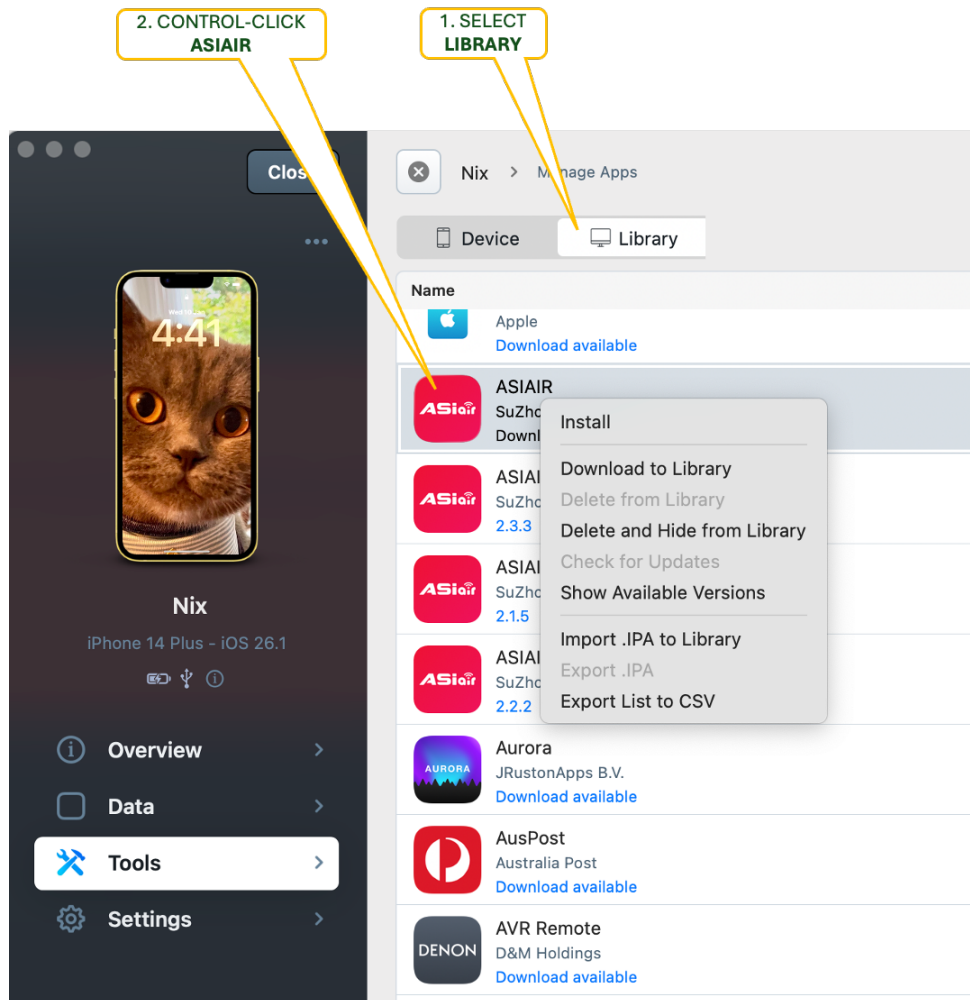

Figure 55. iMazing user interface
4. Connect your device to the Mac or PC and open iMazing (Figure 55)